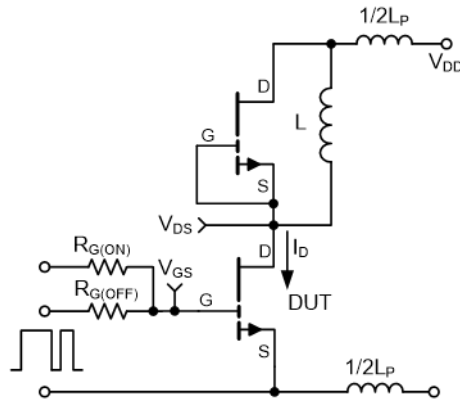

Figure 13: GS66508T Switching Loss Test Circuit
(7) L_P = parasitic inductance
(8) See Figure 13 for switching test circuit